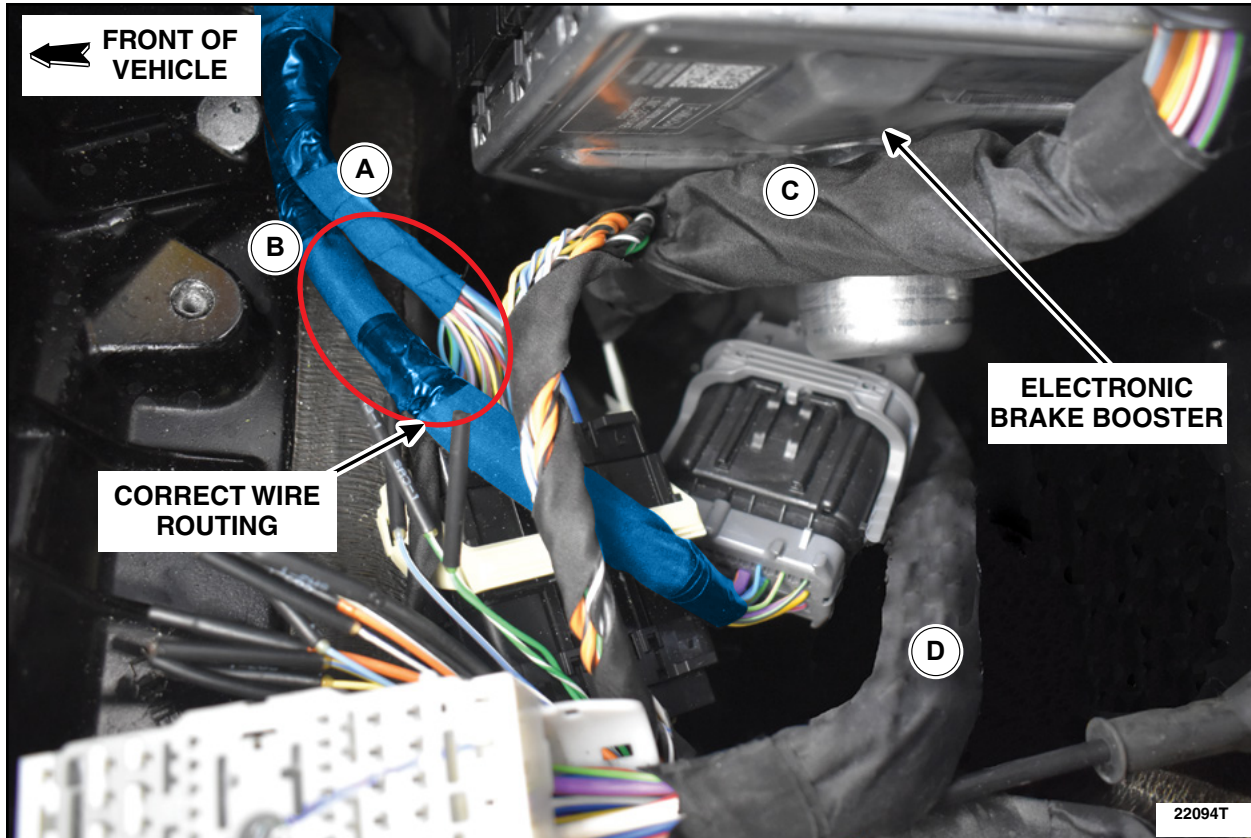

FIGURE 12
18. Make sure the wire routing is as shown below in Figure 12 and adjust as necessary.